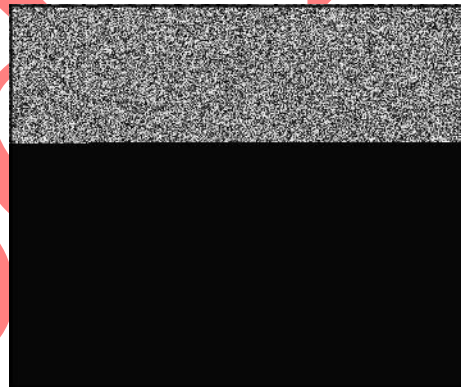

Figure 27
3. Place wave washer (E, Figure 27) with concave side up and flat washer (F) on starter clutch spline.